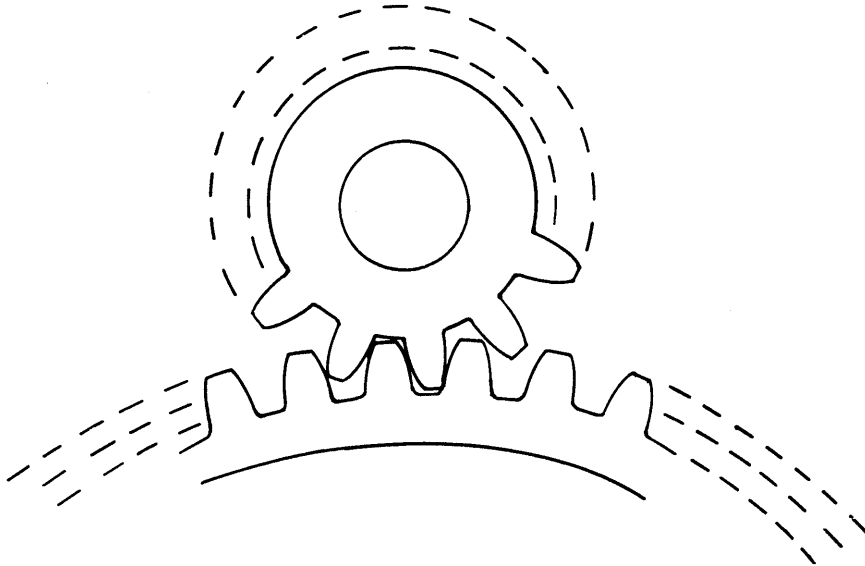

FIGURE 5-3 SERVO GEAR MESH
4.	Observe the position of the servo drive gear with respect to the large gear on the servo mount. The capstan should be able rotate one quarter of a degree to one eighth of a degree (Figure 5-3).
Reference Figure 5-3, page 5-15, and Figure 6-1 on pages 6-3 and 6-5.